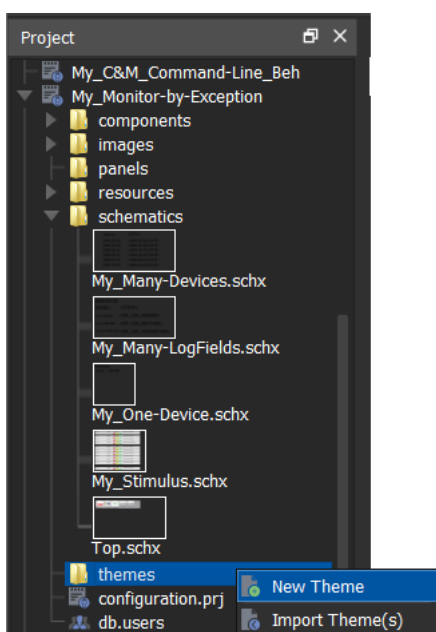

Fig. 2-35: New Theme
- 1 Right-click in the **Project View** on the 'themes' folder. And select 'New Theme'. See Figure 2-35.